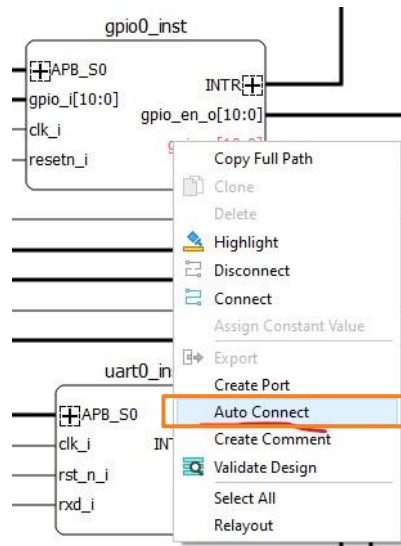

Figure 3.18. Propeller Builder – GPIO Auto Connect
6. Right-click on the **gpio0_inst** component to open the pop-up menu and select the **Auto Connect** as shown in Figure 3.18. The Propel Builder will generate and connect the input, output, and output enable ports.